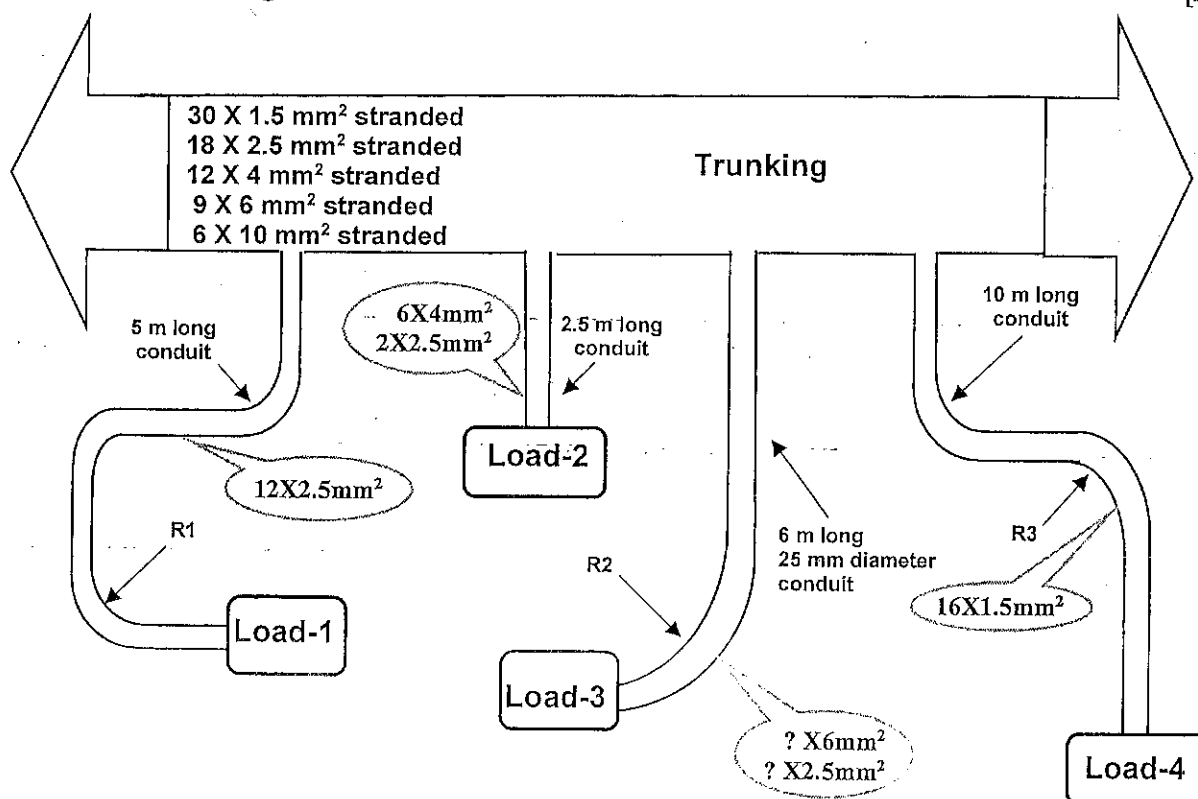

Figure Q5
5. Figure Q5 shows different sizes of metal conduits joined to a metal trunking in an industrial electrical installation. Determine: